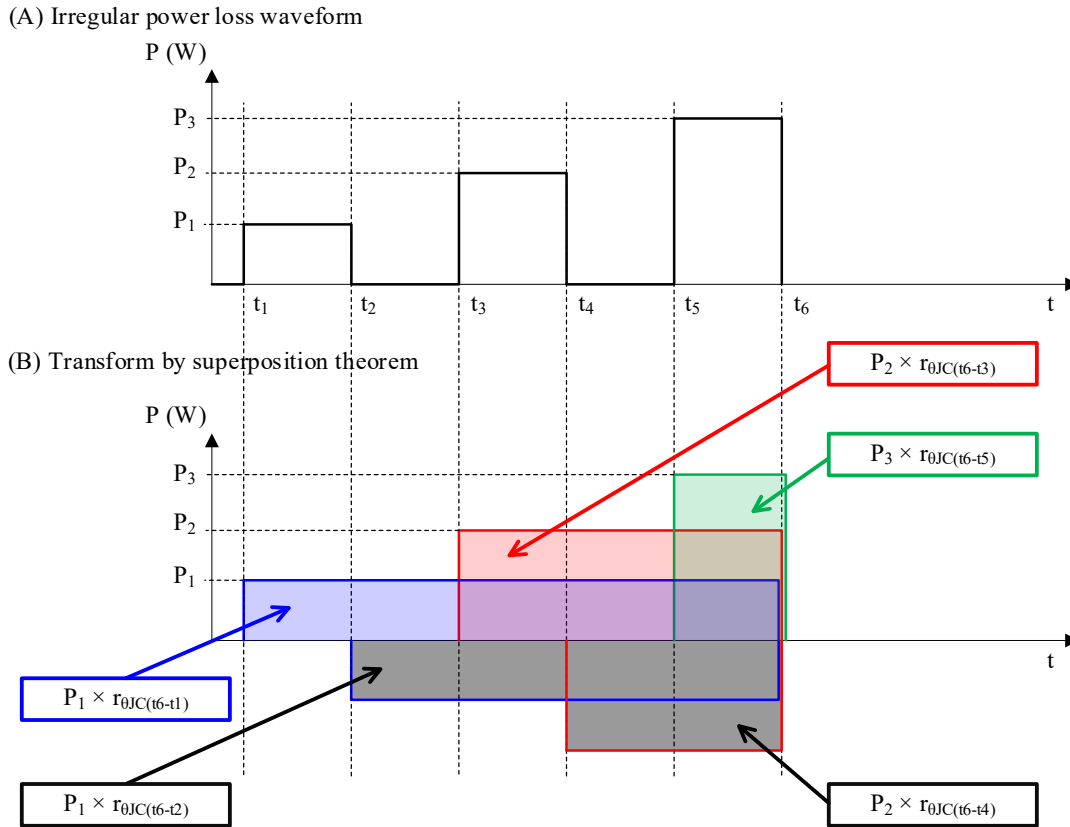

Figure 3-5. Superposition Theorem
(A) in Figure 3-5 shows the calculation of the junction temperature, T_J , when an irregular square wave power loss occurs in the power MOSFET/IGBT. As shown in (B) in Figure 3-5, T_J for each block is calculated by using the superposition theorem.